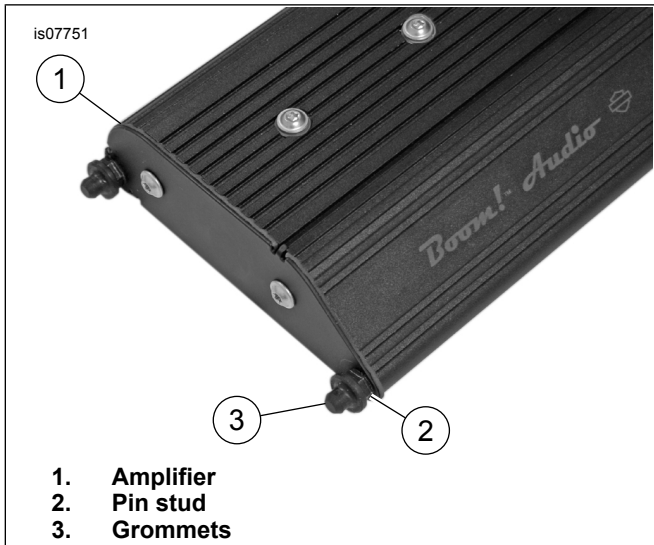

Figure 6. Amplifier Pin Studs
7. See Figure 6. Install the amplifier pin studs in the amplifier. Tighten.